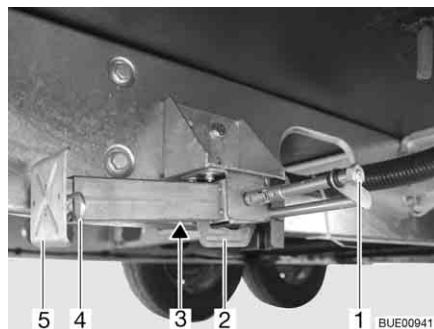

Fig. 34 Steady leg
- Place the socket spanner on the hexagonal nut (Fig. 34,1) and rotate until the steady leg is in a perpendicular downward position.
- If the length of the steady leg can be adjusted, remove the splint (Fig. 34,4) out of the support foot extension (Fig. 34,5).
- Place the socket spanner on the hexagonal nut (Fig. 34,1) and rotate until the steady leg is clear of the ground.
- Push in the support foot extension (Fig. 34,5) and insert the splint (Fig. 34,4) in the drilled hole in the support foot extension.
- Rotate the hexagonal nut (Fig. 34,1) until the steady leg has swung upwards and the guide (Fig. 34,2) has reached the very end of the slot (Fig. 34,3).